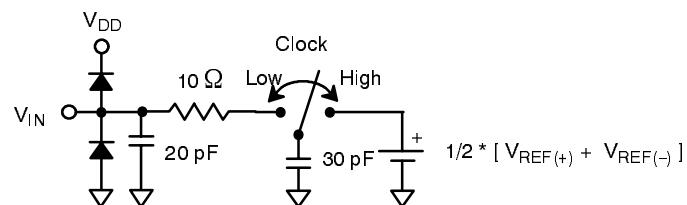

Figure 3. Analog Input Equivalent Circuit
- ² See V_{IN} Input Equivalent Circuit (Figure 3.). Switched capacitor analog input requires input buffer with lowest output resistance possible.